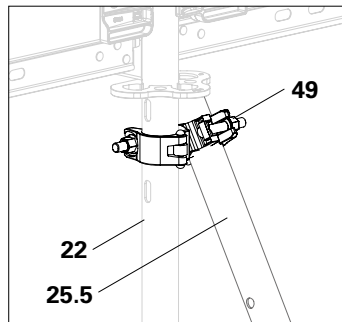

Fig. D7.05a
4. From the second scaffold level, fit the inner tube onto the outer Easy Standard (22) using a swivel coupling (49). Push the coupling as close as possible to the rosette and tighten. (Fig. D7.05a)
6. Fit the inner tube (25.2) onto the rear hole (26.4) of the base plate by means of bolts (27) and nuts (28).